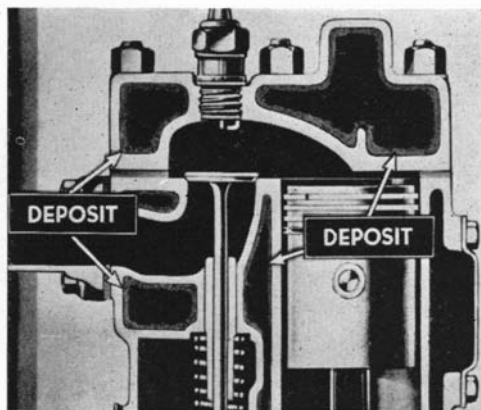

Fig. 41.—Lime deposits in the cooling system should be removed once a year
of fuel; (2) improper fuel mixture; (3) spark improperly timed; (4) leaky valves; (5) improper valve-tappet clearance; (6) overloading; (7) limed and clogged cooling system (*Fig. 41*); (8) dirt in radiator fins; (9) slipping fan belt; (10) wrong type of spark plugs; (11) too heavy crankcase oil; (12) covering of radiators and hood ventilators in winter; (13) damaged thermostat.